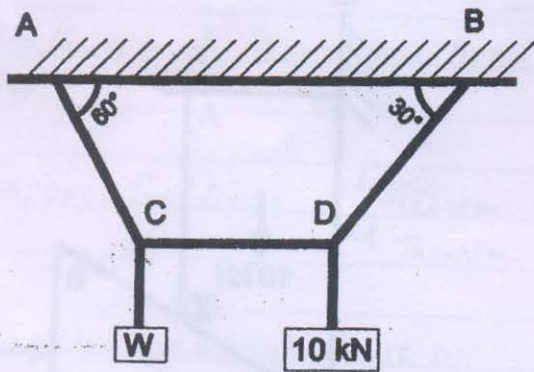

Figure 1
- Q. 2 (a) A cord supported at A and B carries a load of 10 kN at D and a load W at C as shown in figure 1. Find the value of W so that CD remains horizontal. 04